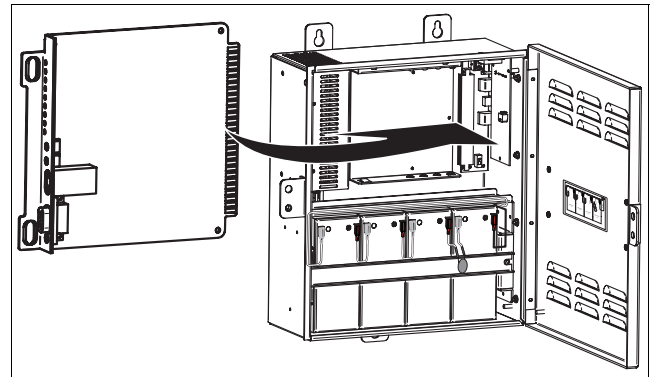

Figure 3. H2TU-R Card Location and Installation
4. Use Figure 3 for reference for the remainder of this procedure. Hold the card so that the faceplate containing the LEDs is on the left (closest to the power supply) and the circuitry items (chips, capacitors, etc.) are facing up.
3. Use Figure 3 on page 3 for reference for the remainder of this procedure. Using a screwdriver, push in the lever which holds the H2TU-R card in place. This lever is